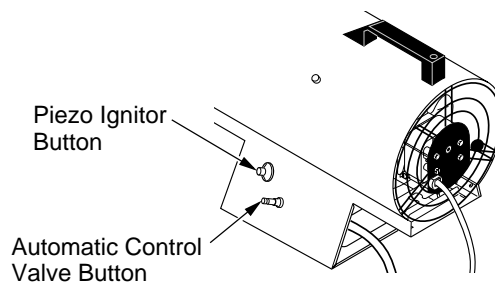

Figure 8 - Automatic Control Valve Button and Piezo Ignitor Button
6. Push in and hold automatic control valve button (see Figure 8). Push piezo ignitor button (see Figure 8). Keep pushing ignitor button until the burner lights. When burner lights, keep automatic control valve button pushed in. Release button after 30 seconds. This activates the automatic control system.